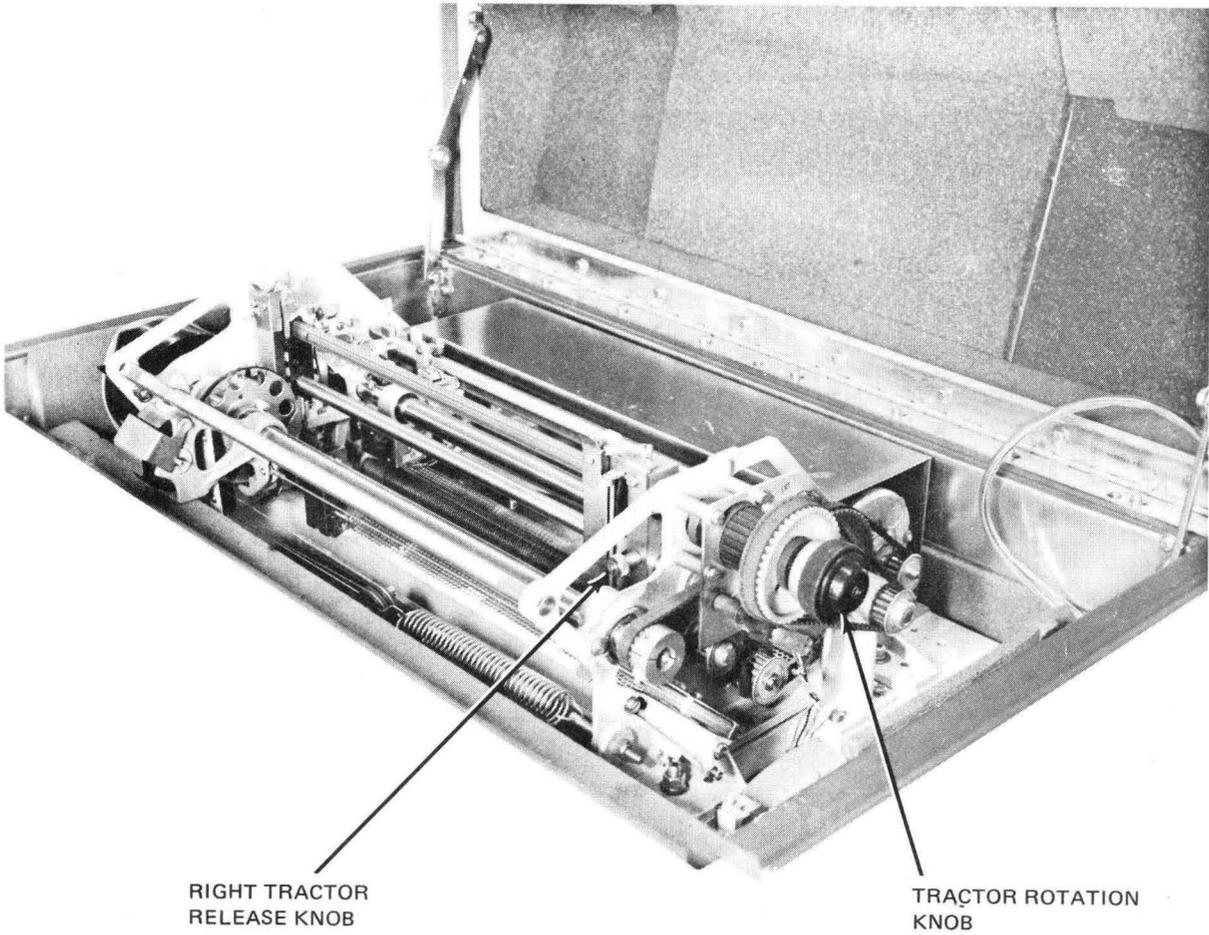

Figure 4-2. Incremental Printer Mechanism, Right Side
4. If forms of the same width are to be loaded, disregard this step. If forms of a different width are to be loaded, release the right tractor by loosening the knurled knob associated with it (Figure 4-2) and reposition to the approximate width of the new form.
When a form length of 11 inches is loaded, the horizontal perforated line between forms is to be located between two specific pins in each tractor. The color of these pins (black) is in contrast to the remaining pins on the tractors and can be easily identified. These pins can be brought to a visible position by using the knob associated with the tractor driving shaft. The knob is located on the right side of the mechanism (see Figure 4-2, TRACTOR ROTATION KNOB) and permits continuous rotation of the shaft by hand when the knob is pulled to the right. Locating the form in this manner allows use of the HOME switch on the incremental printer's front panel, or the FF (forms feed) character from the processor, to advance the paper from any present position to a new position four lines past the next row of perforations.